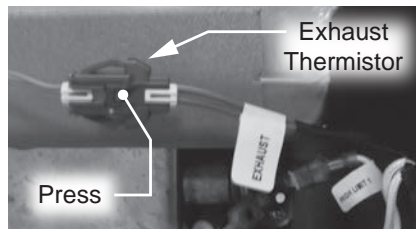

Figure 29 - Disconnecting exhaust thermistor
**5** Locate the exhaust thermistor wiring harness and disconnect it. See Figure 29.